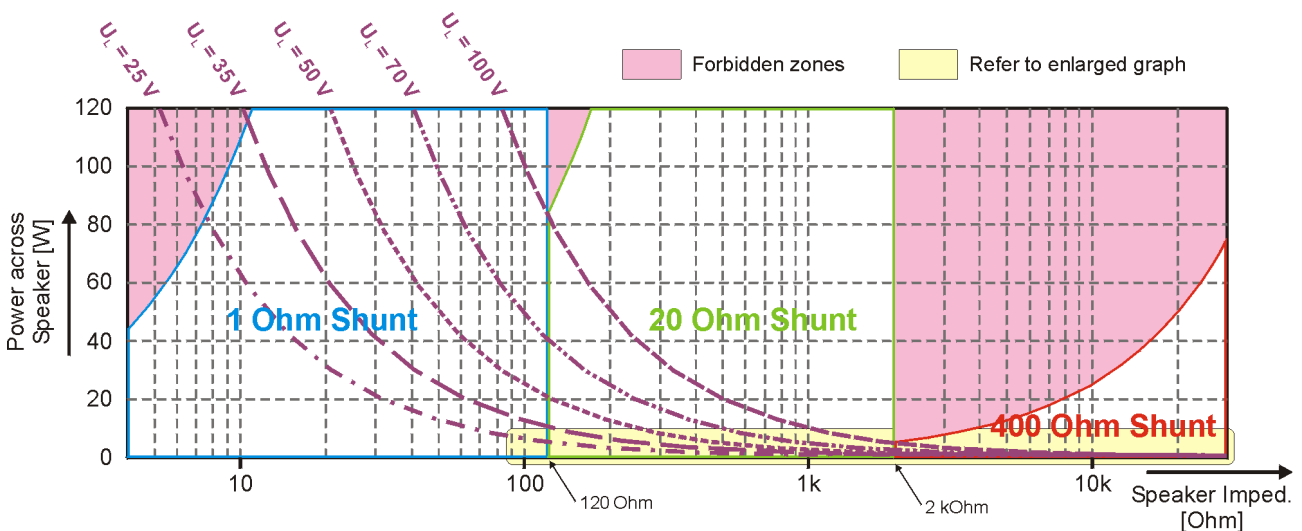

Figure 2a Shunt resistor selector guide
1. On the graph of *Figure 2a*, look for the line that represents the voltage U_L across the speaker.